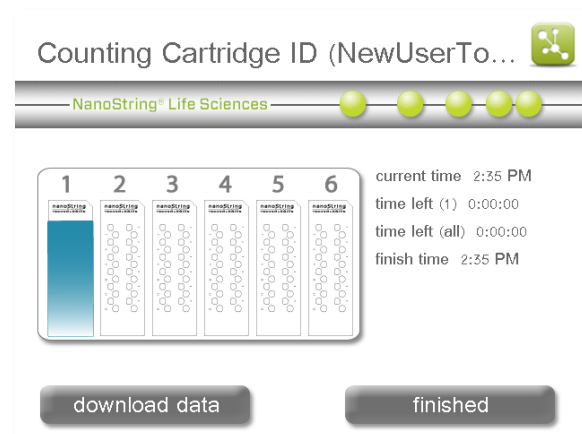

Figure 93: The 'Counting Cartridge ID' screen with completed run information.
13. The screen image in Figure 93 provides an example of a completed run.